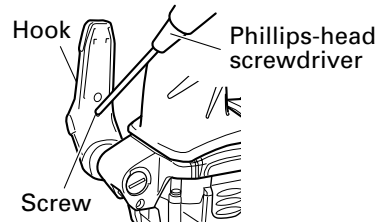

Fig. 10
- (1) Loosen the hook screw with a phillips-head screwdriver (No. 1). (Fig. 10)